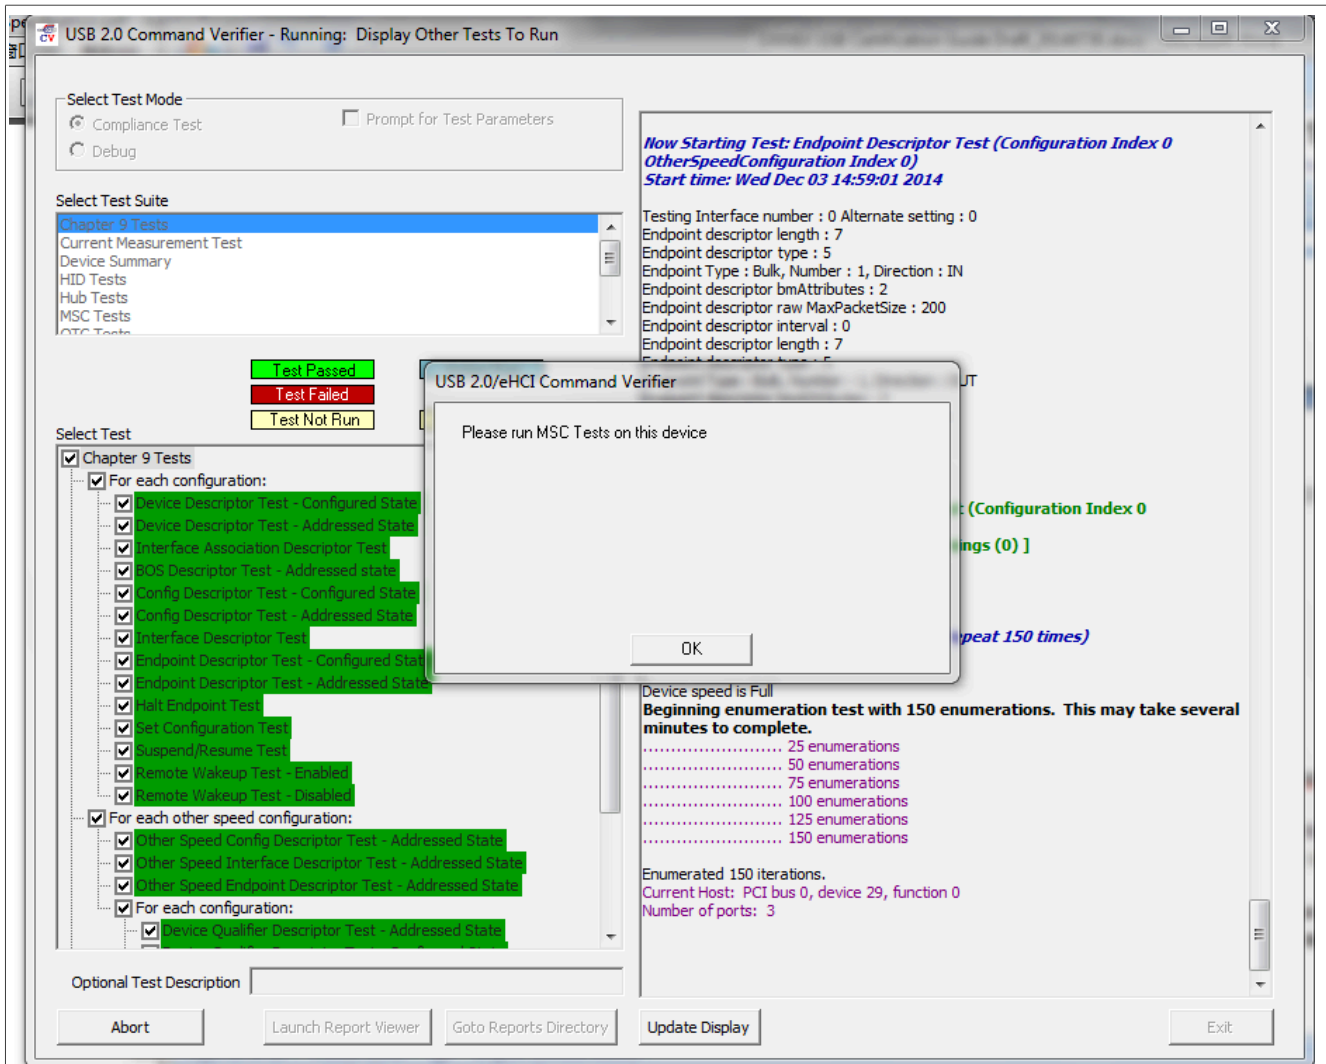

Figure 122. Prompt box after USB20CV Chapter 9 Tests
5. After Chapter 9 tests are finished, USB20CV will pop out a window shows which other tests must be done, as shown in Figure 122 below. i.MX series acts as Mass Storage in Device Mode, so if the pop-out box asks you to do tests more than MSC, you should check your configuration of supported Device Class.
Appropriate class tests (HID, HUB, MSC, UVC, PHDC, and so on,...) should be done according to the prompt of Chapter 9 Tests, as shown in Figure 122 above.